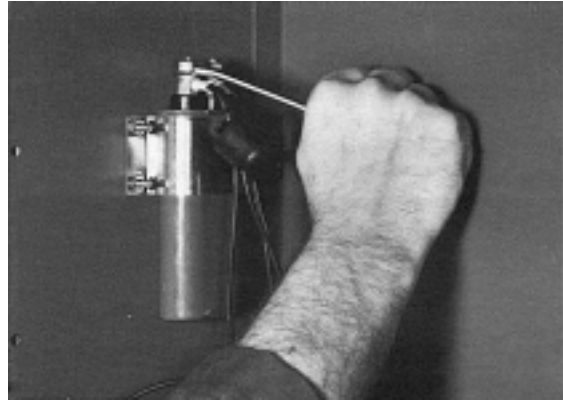

Figure 6-14
2. Remove the PMG output leads from the capacitor (Figure 6-14) and loosen all cable ties so the leads can be removed with the PMG stator.